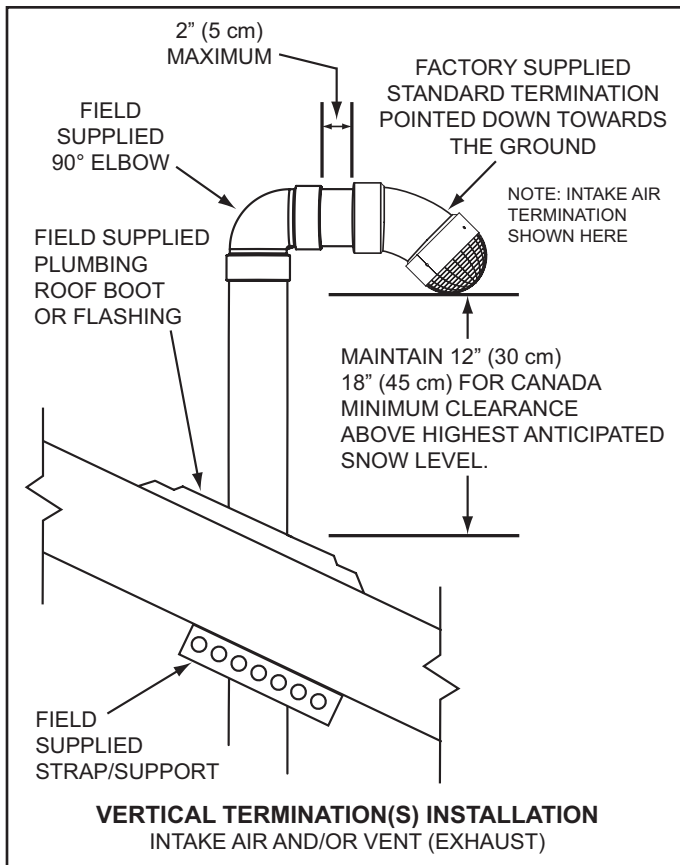
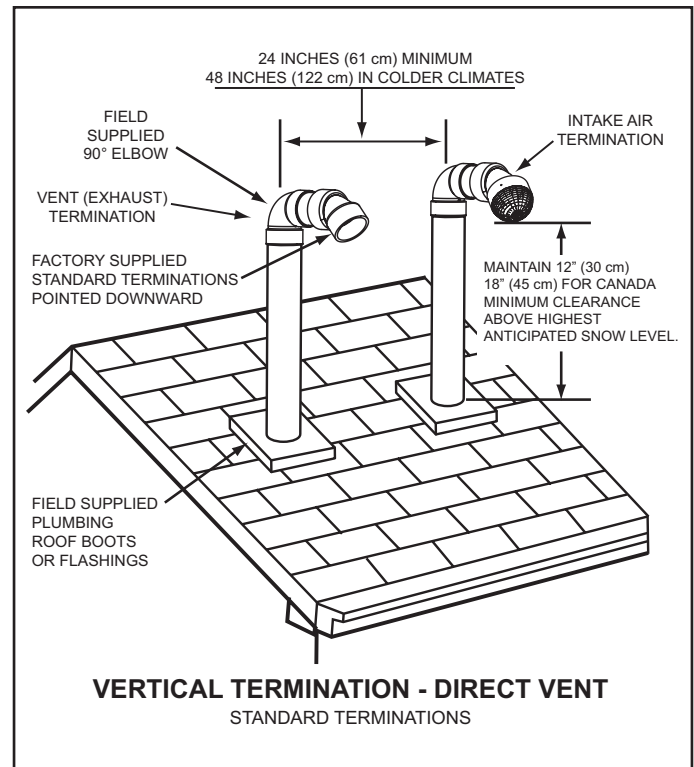
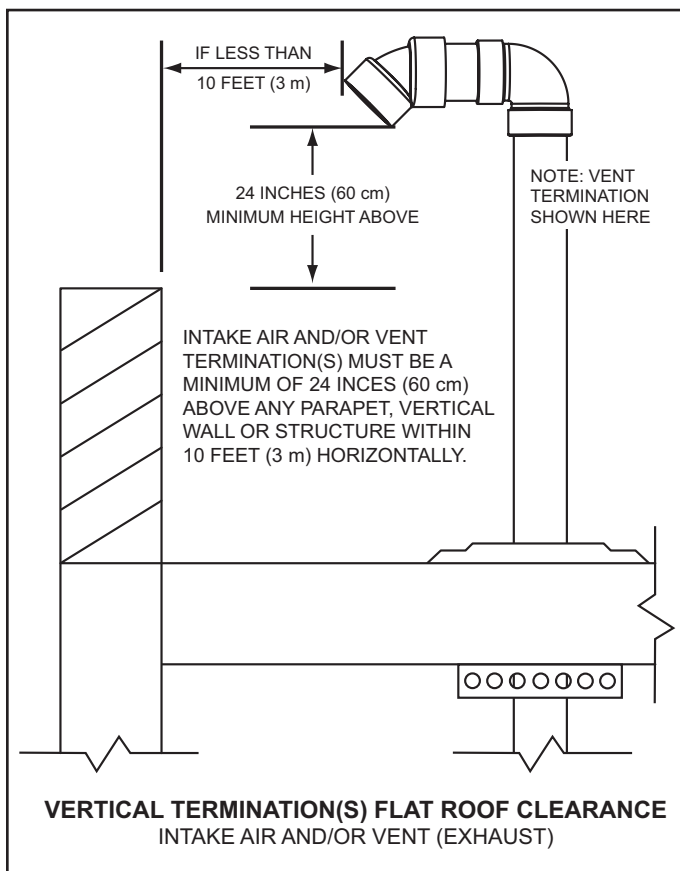

Figure 23
Figure 25
Figure 24
2. If installing only the vent (exhaust) piping in a Power Vent configuration vertically through the roof; ensure that all exterior vertical clearance requirements shown in Figure 23 and Figure 24 on page 28 are being maintained. These clearances and those cited by local and national codes must be maintained.
**NOTE:** On flat roof installations the vent termination must be a minimum of 24 inches (60 cm) above any parapet, vertical wall or structure within 10 feet (3 m) horizontally. See Figure 24 on page 28.
3. If installing both intake air and vent piping in a Direct Vent configuration vertically through the roof; ensure that all exterior vertical clearance requirements shown in Figure 23 and Figure 24 on page 28 are being maintained. These clearances and those cited by local and national codes must be maintained.
**NOTE:** On flat roof installations the intake air and the vent terminations must be a minimum of 24 inches (60 cm) above any parapet, vertical wall or structure within 10 feet (3 m) horizontally. See Figure 24 on page 28.
The vent termination must be oriented facing downward as shown in Figure 23 and Figure 24 on page 28.
The bottom edge of the vent termination must be a minimum of 12 inches (30 cm), 18 inches (45 cm) in Canada, above the average or expected snow level as shown in Figure 23 on page 28.
The intake air and vent pipes must penetrate the same side of the roof as shown in Figure 25 on page 28.
The intake air and vent terminations must be oriented facing downward and in the same direction as shown in Figure 25 on page 28.
The intake air and vent terminations must have a minimum separation of 24" (61 cm) measured on center line as shown in Figure 25 on page 28. In colder climates this separation should be increased to at least 48 inches (122 cm).
The bottom edge of the intake air and vent terminations must be a minimum of 12 inches (30 cm), 18 inches (45 cm) in Canada, above the average or expected snow level as shown in Figure 23 and Figure 25 on page 28.
The distance between the closest vent and intake air terminations must be a minimum of 24 inches (61 cm) as shown in Figure 25 on page 28. In colder climates this separation should be increased to at least 48 inches (122 cm).
8. Suspend the pipe(s) through center of hole using field supplied metal strapping or equivalent support materials as shown in Figure 23 on page 28.
9. Slide a roof boot or equivalent flashing over the pipe and secure roof boot or equivalent flashing to roof and seal around the flashing as shown in Figure 23, Figure 24 and Figure 25 on page 28.
10. Install the factory supplied intake air and/or vent termination(s) using field supplied pipe and one field supplied 90° elbow as shown in Figure 23 on page 28. The short section of pipe that connects between the field supplied 90° elbow and the factory supplied termination must not be excessive in length. The exposed portion of this pipe shall be no more than 2 inches (5 cm), see Figure 23 on page 28.